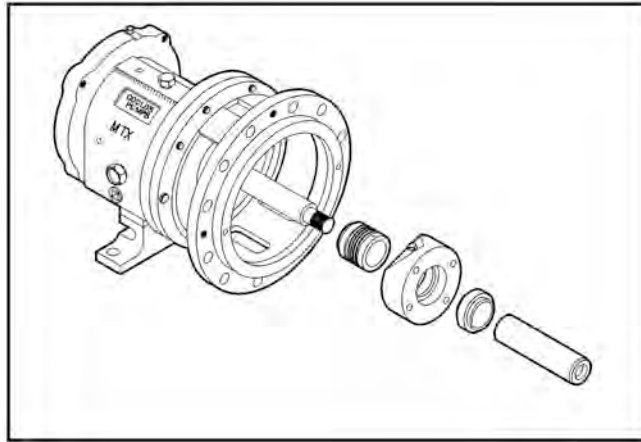

Figure 67:
29. Install the seal chamber or backplate (184) with hex nuts (370H). Be sure that the gland studs line up with the holes in the gland (Fig. 67).